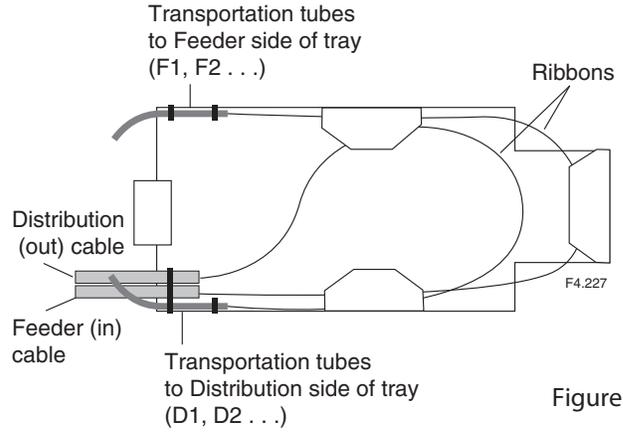

Figure 3
1. Route the central core tubes onto the slack basket and secure each core tube to the basket with two tie wraps as shown. (Fig. 3)
2. Label the transportation tubes "D1", "D2", etc. and "F1", "F2", etc. using transportation tube labels from the closure kit. Route the "F" tubes from the distribution side of the basket, behind the tray bracket, and off to the feeder side of the trays above. Secure them to the basket with two tie wraps. Similarly route and secure the "D" tubes from the feeder side of the basket behind the bracket and off to the distribution side of the trays above. (Fig. 3)